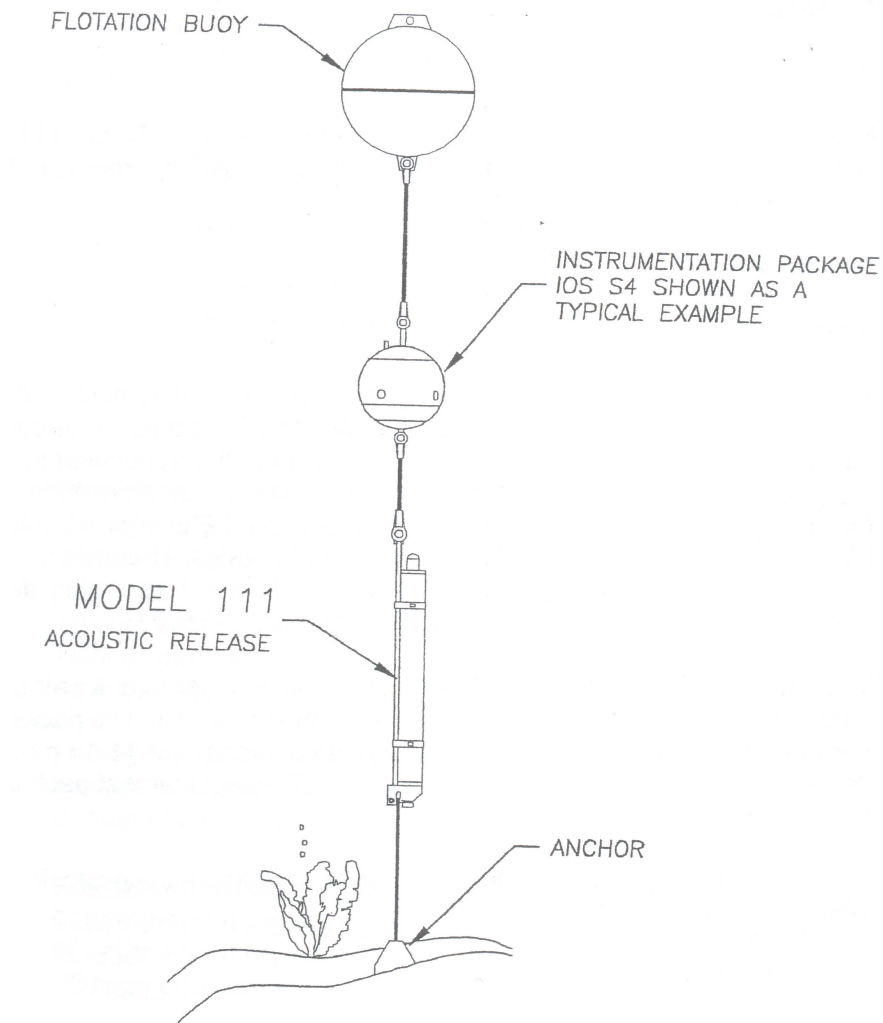

Figure 3.3: Generic setup for deployment
The deployment of the whole equipment must follow a generic setup, like the one shown in figure 3.3.
4. If you are using two releasers in parallel use the setup shown in figure 3.5 instead of the one shown in Figure 3.3. This setup requires that the rope is tied to the release pivots of both releasers, having a metal ring in the middle to attach the equipment to the anchor. Figure 3.6 shows the setup in a real image.